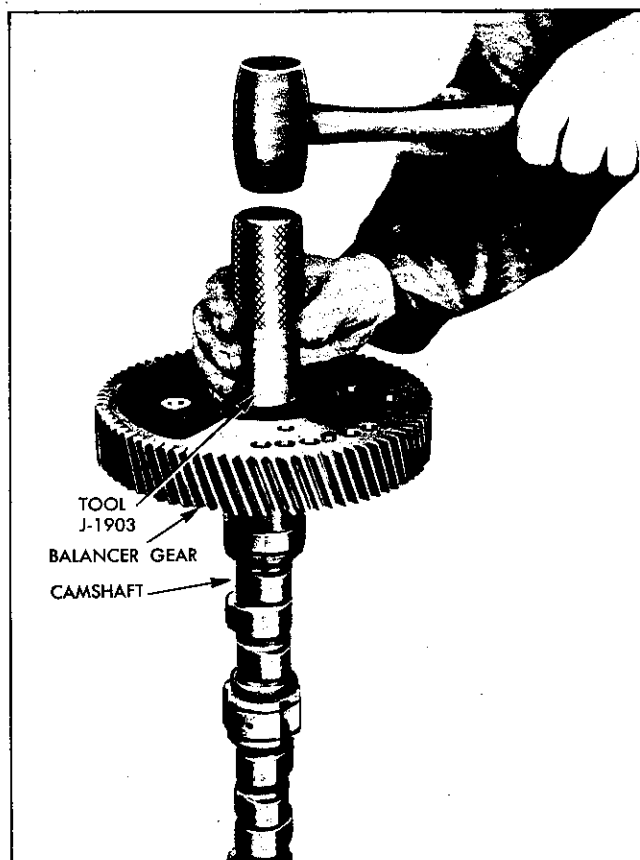

Fig. 9—Replacing Balancer Gears (Camshaft or Balancer Shaft) with Tool J-1903.
3. Rest non-gear end of shaft on wood block and start gear onto shaft by hand so keyway aligns with key and with flat finished face of gear away from bearing. (See Fig. 9.)
4. Using Tool J-1903 in the manner illustrated in Fig. 9, drive gear onto shaft tight against shoulder on shaft. Drive the gear on the balancer shaft, in the same manner.